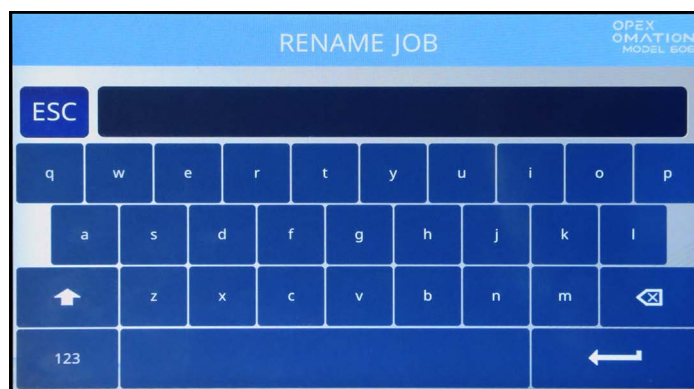

Figure 6-11: Rename Job screen
2. Tap a Job to select it. The **RENAME JOB** screen appears (Figure 6-11).